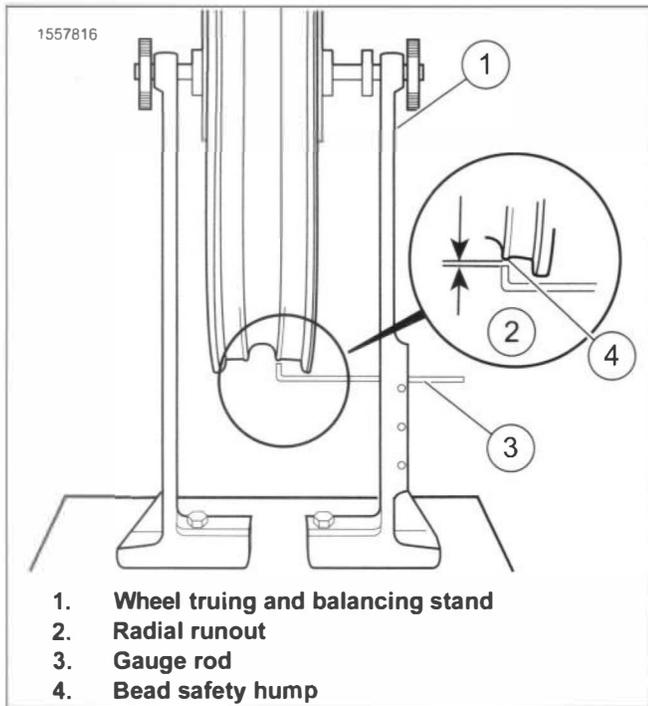

Figure 3-9. Checking Radial Runout
1. See Figure 3-9. Mount wheel in WHEEL TRUING STAND (PART NUMBER: HD-99500-80).